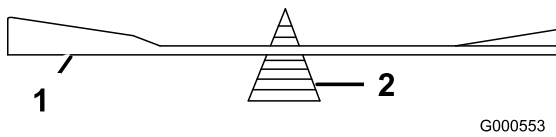

Figure 51
2. Check the balance of the blade by putting it on a blade balancer (Figure 51).